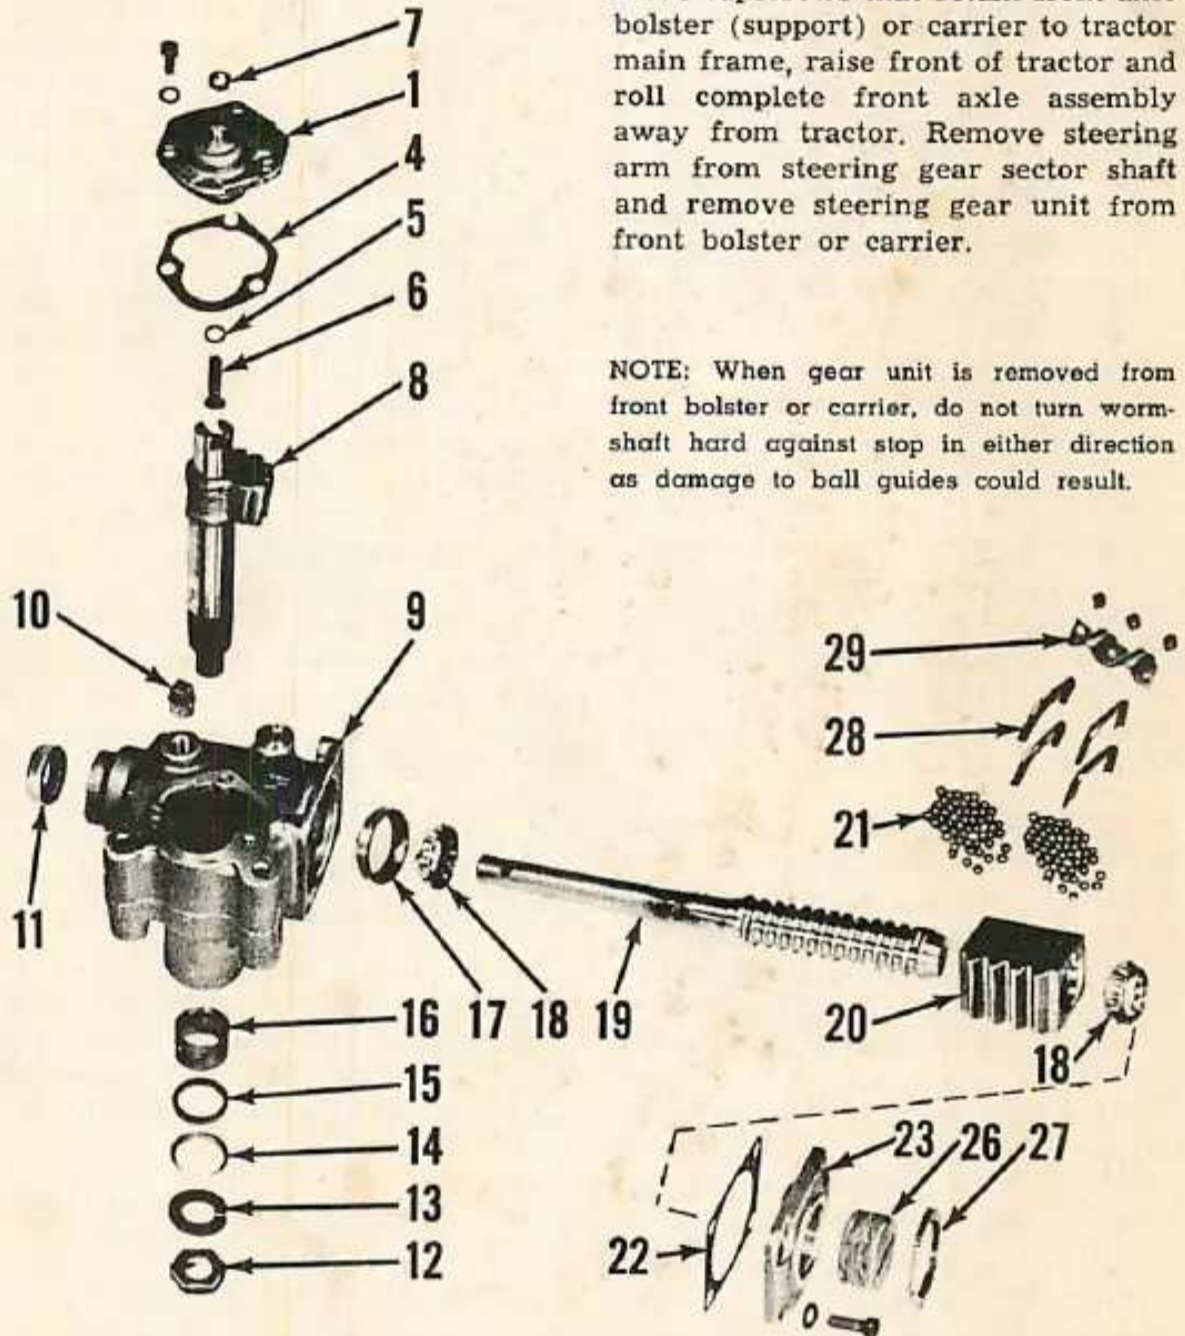
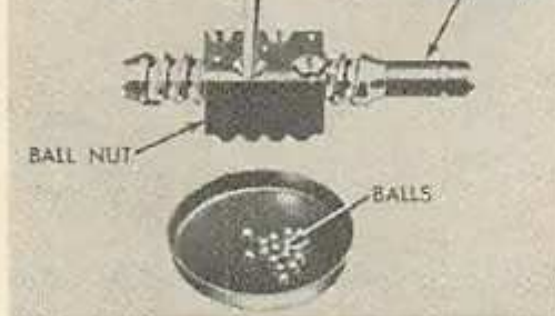

Fig. O5 — Exploded view of Saginaw steering gear assembly used on manual steering models.
Fig. O6 — Using punch to align ball nut with wormgear and to fill ball circuit.
Remove steering gear unit as outlined in paragraph 9. Loosen lash adjusting screw (6—Fig. O5) several turns to relieve any load that may be imposed by the meshing of sector and worm gears. Loosen lock nut (27) and turn adjuster (26) inward until 8-12 in.
To reassemble ball nut, place nut over middle section of worm as shown in Fig. O6. Drop bearing balls into one retainer hole in nut and rotate wormshaft slowly to carry balls away from hole. Continue inserting balls in each circuit until circuit is full to bottom of both holes. If end of worm is reached while inserting balls and rotating worm in nut, hold the balls in position with a clean blunt rod as shown in Fig. O6 while shaft is rotated in an opposite direction for a few turns. Remove the rod and drop the remaining balls in the circuit. Make certain that no balls are outside regular ball circuits. If balls remain in groove between two circuits or at ends, they cannot circulate and will cause gear failure. Next, lay one-half of each split guide (28—Fig. O5) on the bench and place 13 balls in each. Place the other halves of each retainer over the balls. While holding the halves together, plug their ends with heavy grease to prevent the balls from dropping out; then, insert complete retainer units in worm nut and install guide clamp.
Sector shaft large bushing (16—Fig. O5) has an inside diameter of 1.375. Other sector shaft bushing has an inside diameter of 1.0625. I&T suggested clearance of shaft in bushings is 0.0015-0.003.